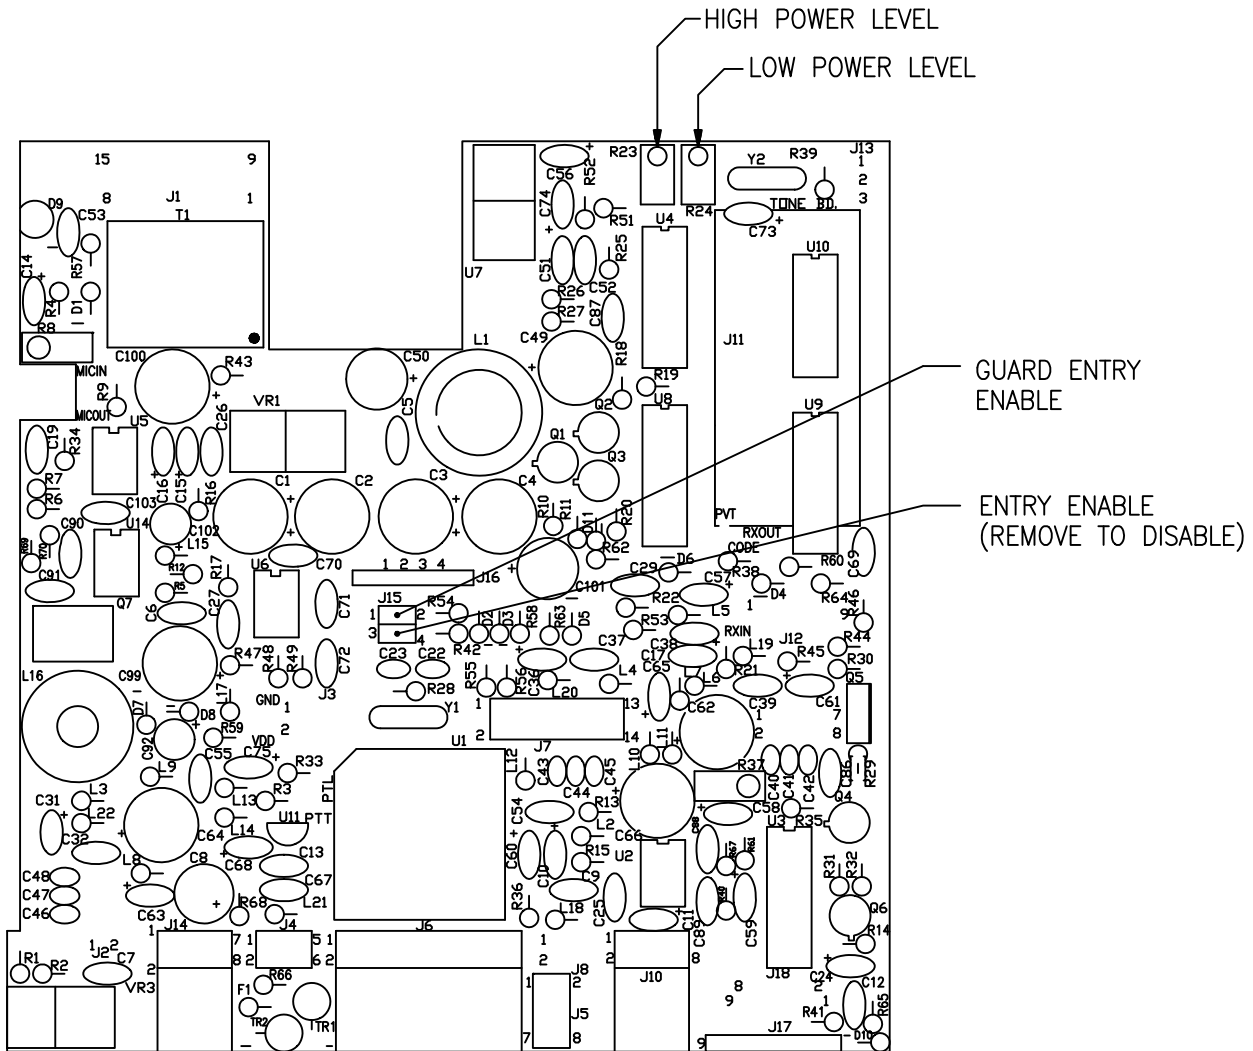

FIGURE 3-3 Internal Enable/Disable Jumper and Transmit High/Low Power Adjust Locations
1. Remove and retain the seven (7) No. 4-40 screws securing the bottom cover of the transceiver to its chassis.
2. Remove and retain the four (4) No. 4-40 screws securing the guard receiver PCB module in the chassis tray. Remove the guard receiver module from the chassis tray.
3. Remove and retain the two (2) screws securing the fuse board. Remove and retain the five (5) screws securing the chassis tray to the main chassis. Remove the chassis tray.
4. You should now have access to the Microprocessor Control Unit (MCU) PCB Module (See Figure 3-3). Remove the enable/disable jumper from pins 3 and 4 of J15.
3. 3. In low power mode, set the low power adjustment potentiometer R24 to produce 1.0 watt of RF output power (See Figure 3-3).